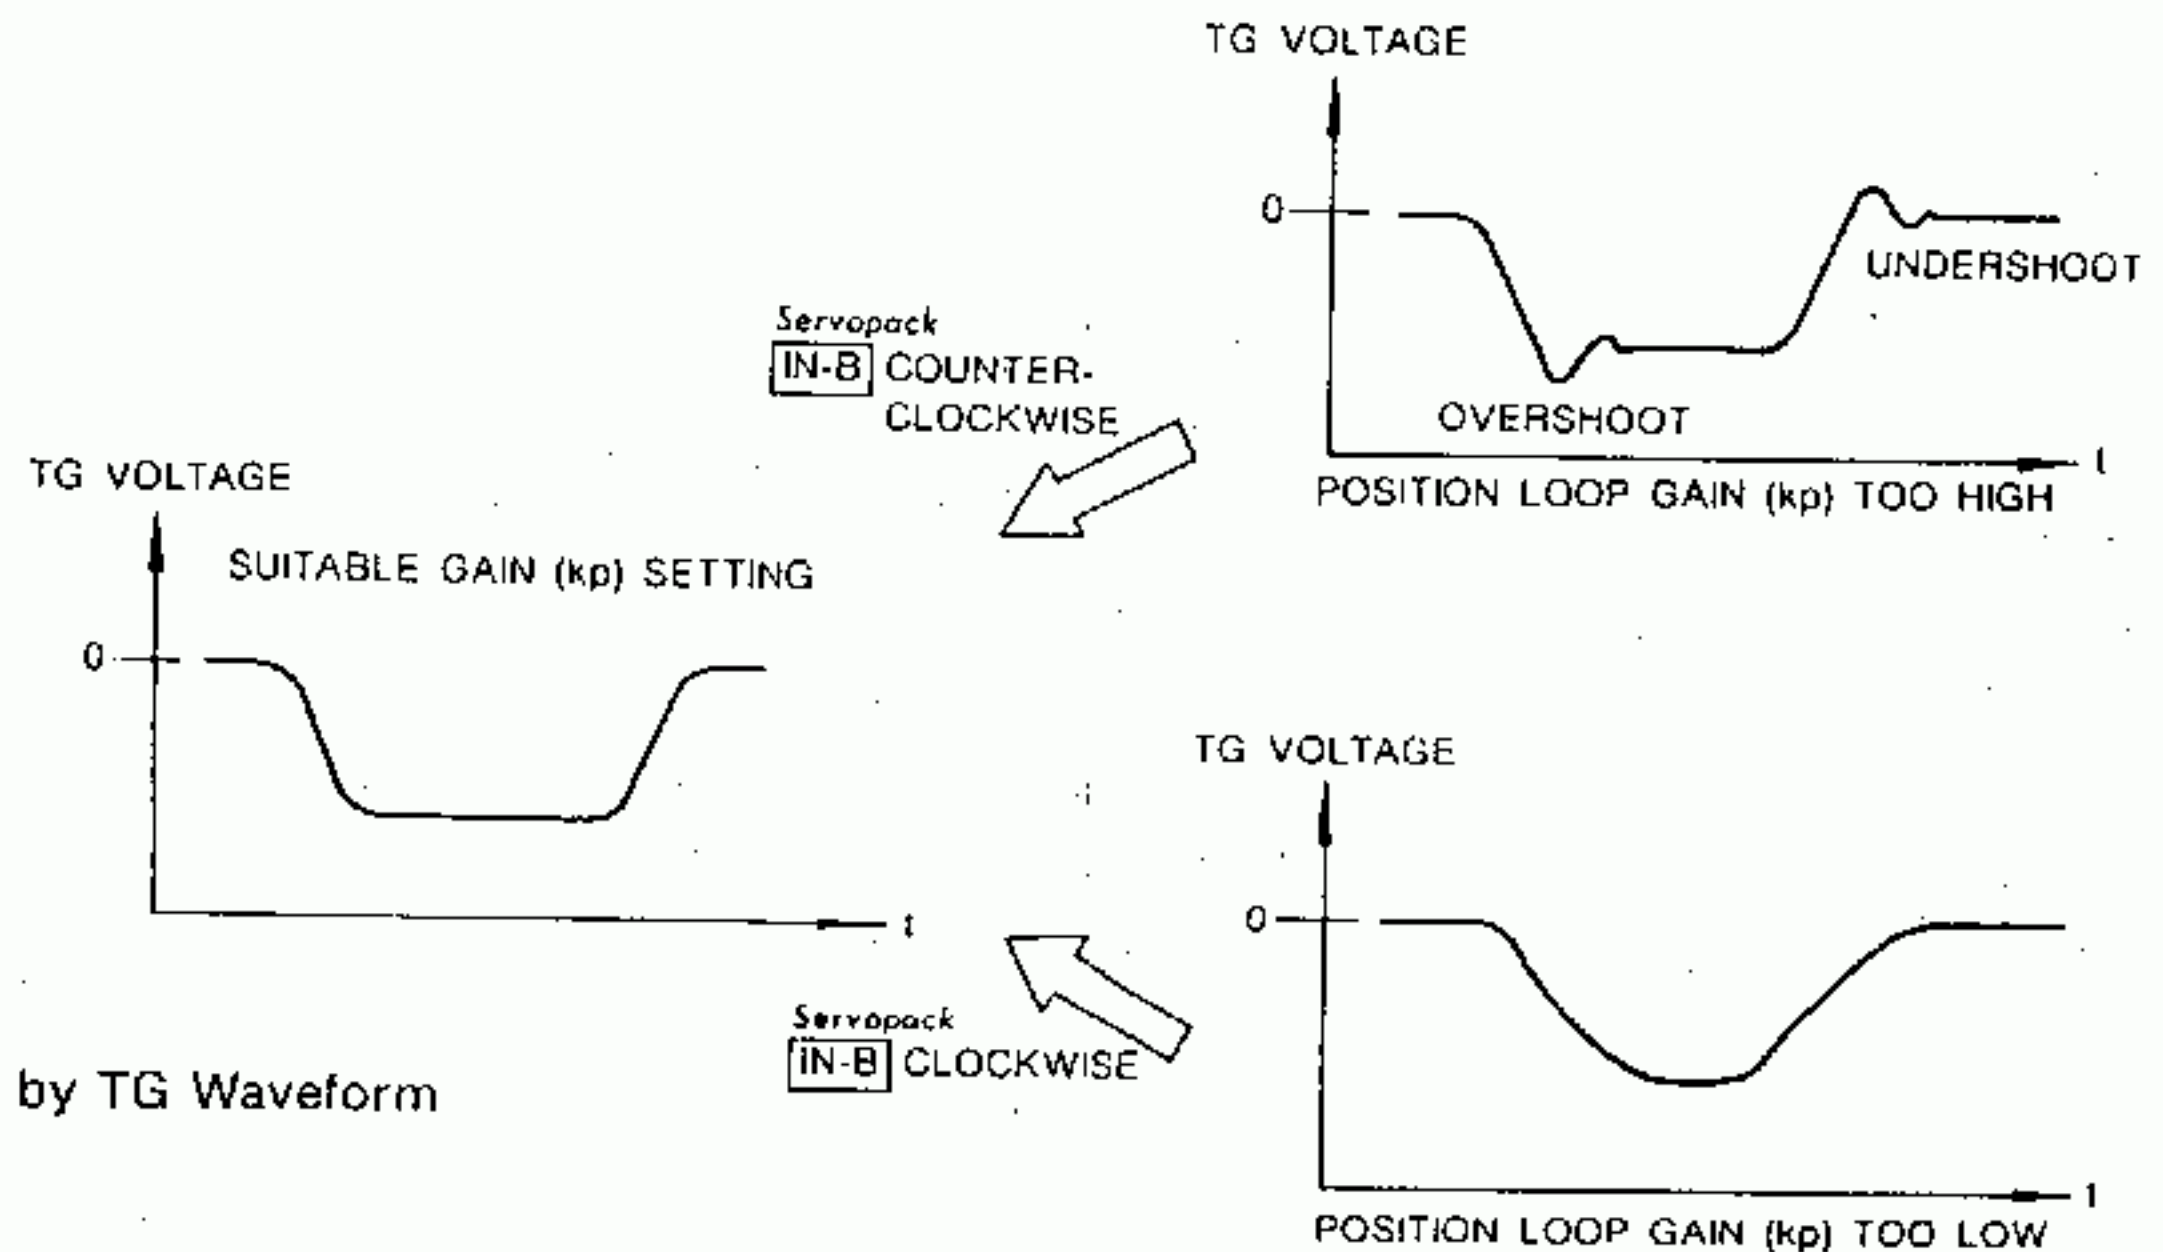

Fig. 9.8 Adjustment by TG Waveform
(4) An Example of optimum setting from the TG, waveform is shown Fig. 9.8. Measure the TG waveform across terminals (3) and (4), which are on the 0 V side of the Servopack.